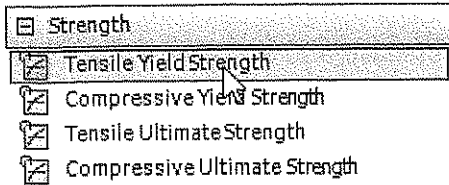

Figure 6-15 Choosing the Tensile Yield Strength from the Strength toolbox
- 9. Double-click on the **Tensile Yield Strength** property under the **Strength** toolbox, as shown in Figure 6-15; the **Tensile Yield Strength** node is added to the **Properties of Outline** window.